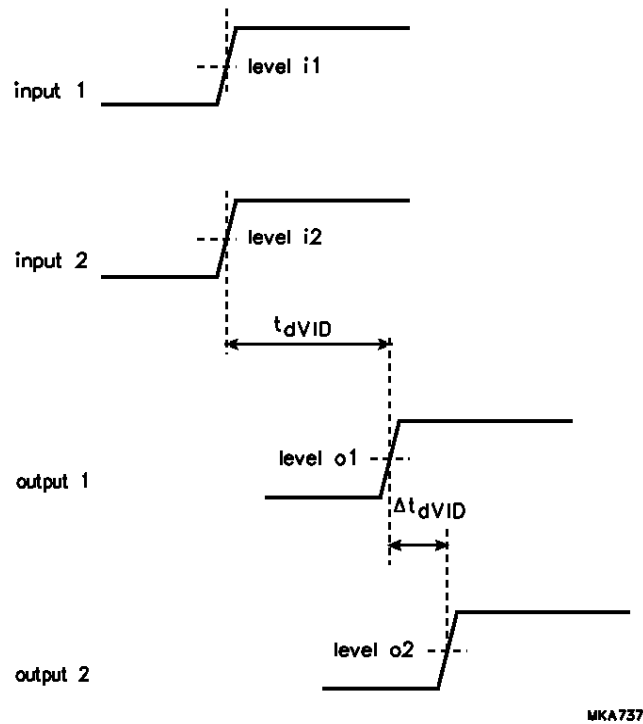

Fig.6 Timing definition: video delay.
7. The video delay between input and output and delay differences are illustrated in Fig.6. Inputs 1 and 2 are either fast blanking input plus a video signal or two video signals. The amplitude of the video signal is 0.5 V (p-p). The video signal levels (i1, i2, o1 and o2) are 50% of the video amplitude. The fast blanking signal levels (i1 and o1) are 0.95 V when the signal rises and 0.5 V when the signal falls.